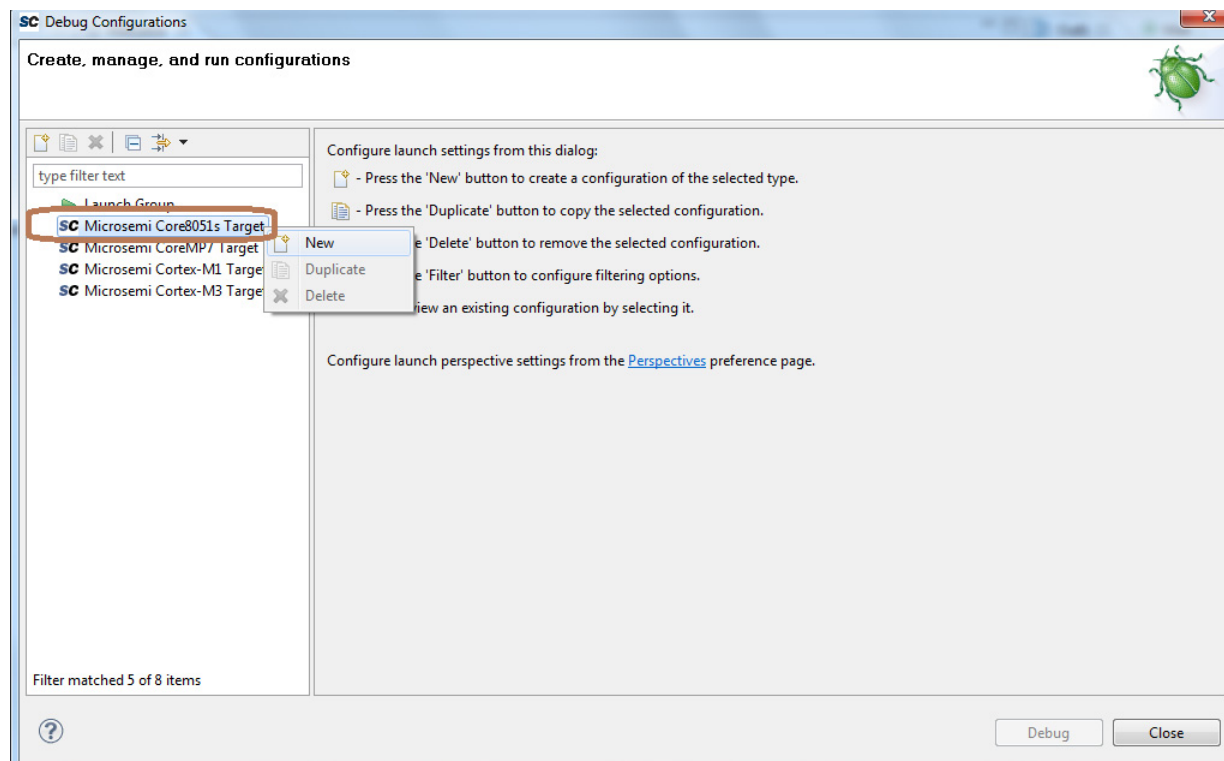

Figure 19 • New Debug Configuration
9. Right-click **Microsemi Core8051s Target** and click **New** to create a new debug configuration, as shown in Figure 19.